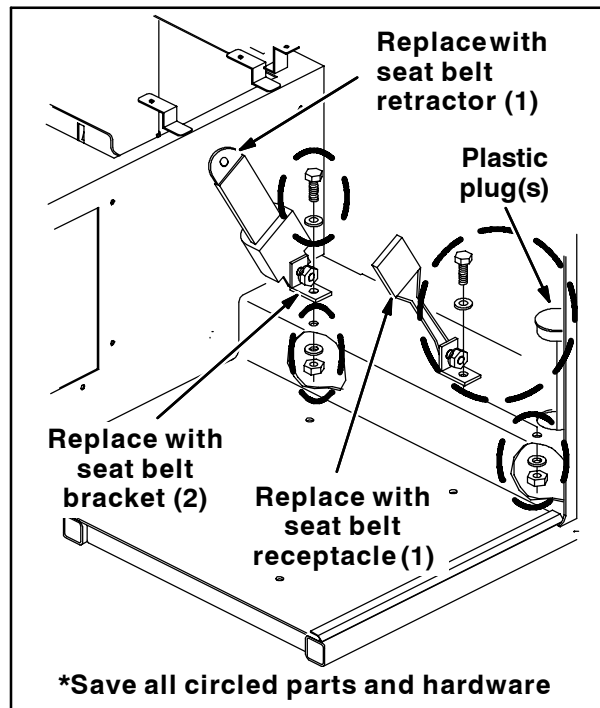
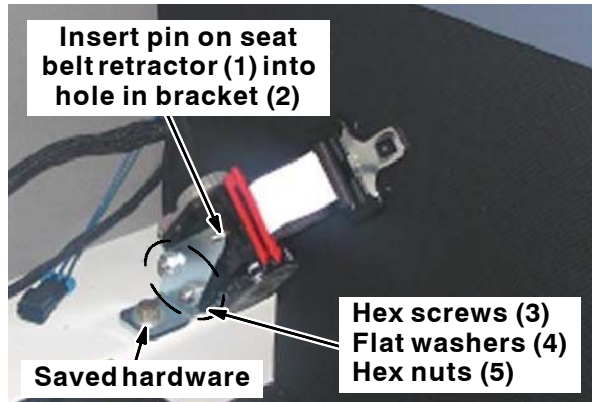
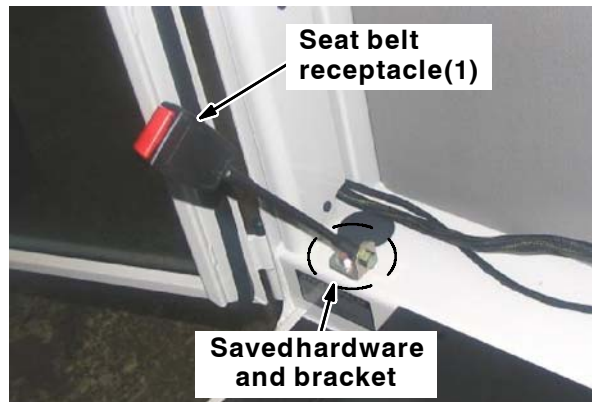

FIG. 5
FIG. 6
FIG. 7
4. Pry the plastic hole plugs located inside both rear corners of the cab to expose the hardware holding the cab down to the machine. Set the plastic plugs aside. Refer to Fig. 5.
1. Remove the hardware, seat belt retractor, and seat belt bracket from the machine. Set aside all hardware used to mount the seat belt retractor/seat belt bracket to the machine. Discard the seat belt retractor and seat belt bracket. Refer to Fig. 5.
2. Remove the hardware and seat belt receptacle from the machine. Set the hardware aside. Refer to Fig. 5.
3. Remove the seat belt receptacle from the bracket. Set the bracket and hardware aside. Discard the seat belt receptacle. Refer to Fig. 5.
4. Insert the pin on the new seat belt retractor (1) into the small hole in the seat belt bracket (2) and use two hex screws (3), four flat washers (4), and two hex nuts (5) to attach the seat belt retractor to the seat belt bracket. Refer to Fig. 6.
5. Use the hex nut and washer saved from the previous seat belt retractor/seat belt bracket to attach the new seat belt retractor (1)/seat belt bracket (2) to the machine. Refer to Fig. 5 and Fig. 6.
6. Use the hardware set aside from the previous seat belt receptacle to attach the new seat belt receptacle (1) to the saved bracket. Refer to Fig. 5 and Fig. 7.
7. Use the hex nut and washer saved from the previous seat belt receptacle to attach the new seat belt receptacle (1)/seat belt bracket to the machine. Refer to Fig. 5 and Fig. 7.
10. Reinstall the plastic plugs into the cab. Refer to Fig. 5.